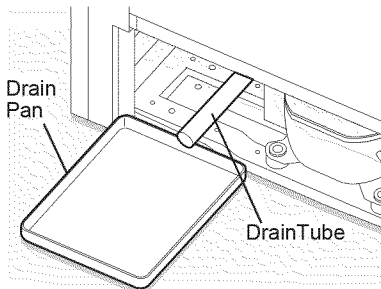
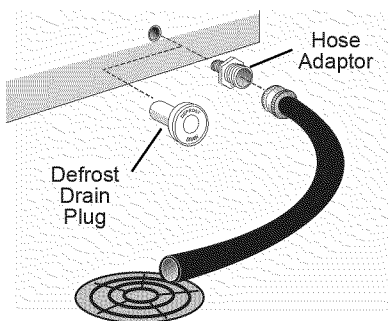
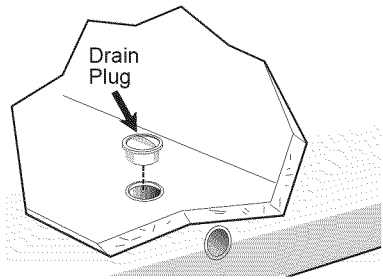

Figure 2
Figure 3
Figure 4
- **On chest models with a defrost drain,** place a shallow pan beneath the drain outlet (Figure 2). A 1/2" garden hose adapter can be used to drain the freezer directly into a floor drain (Figure 3). If your model is not equipped with an adapter, one can be purchased at most hardware stores. Pull out the drain plug inside the freezer, and pull off the outside defrost drain plug (Figure 4). Defrost water will drain out. Check pan occasionally so water does not overflow.